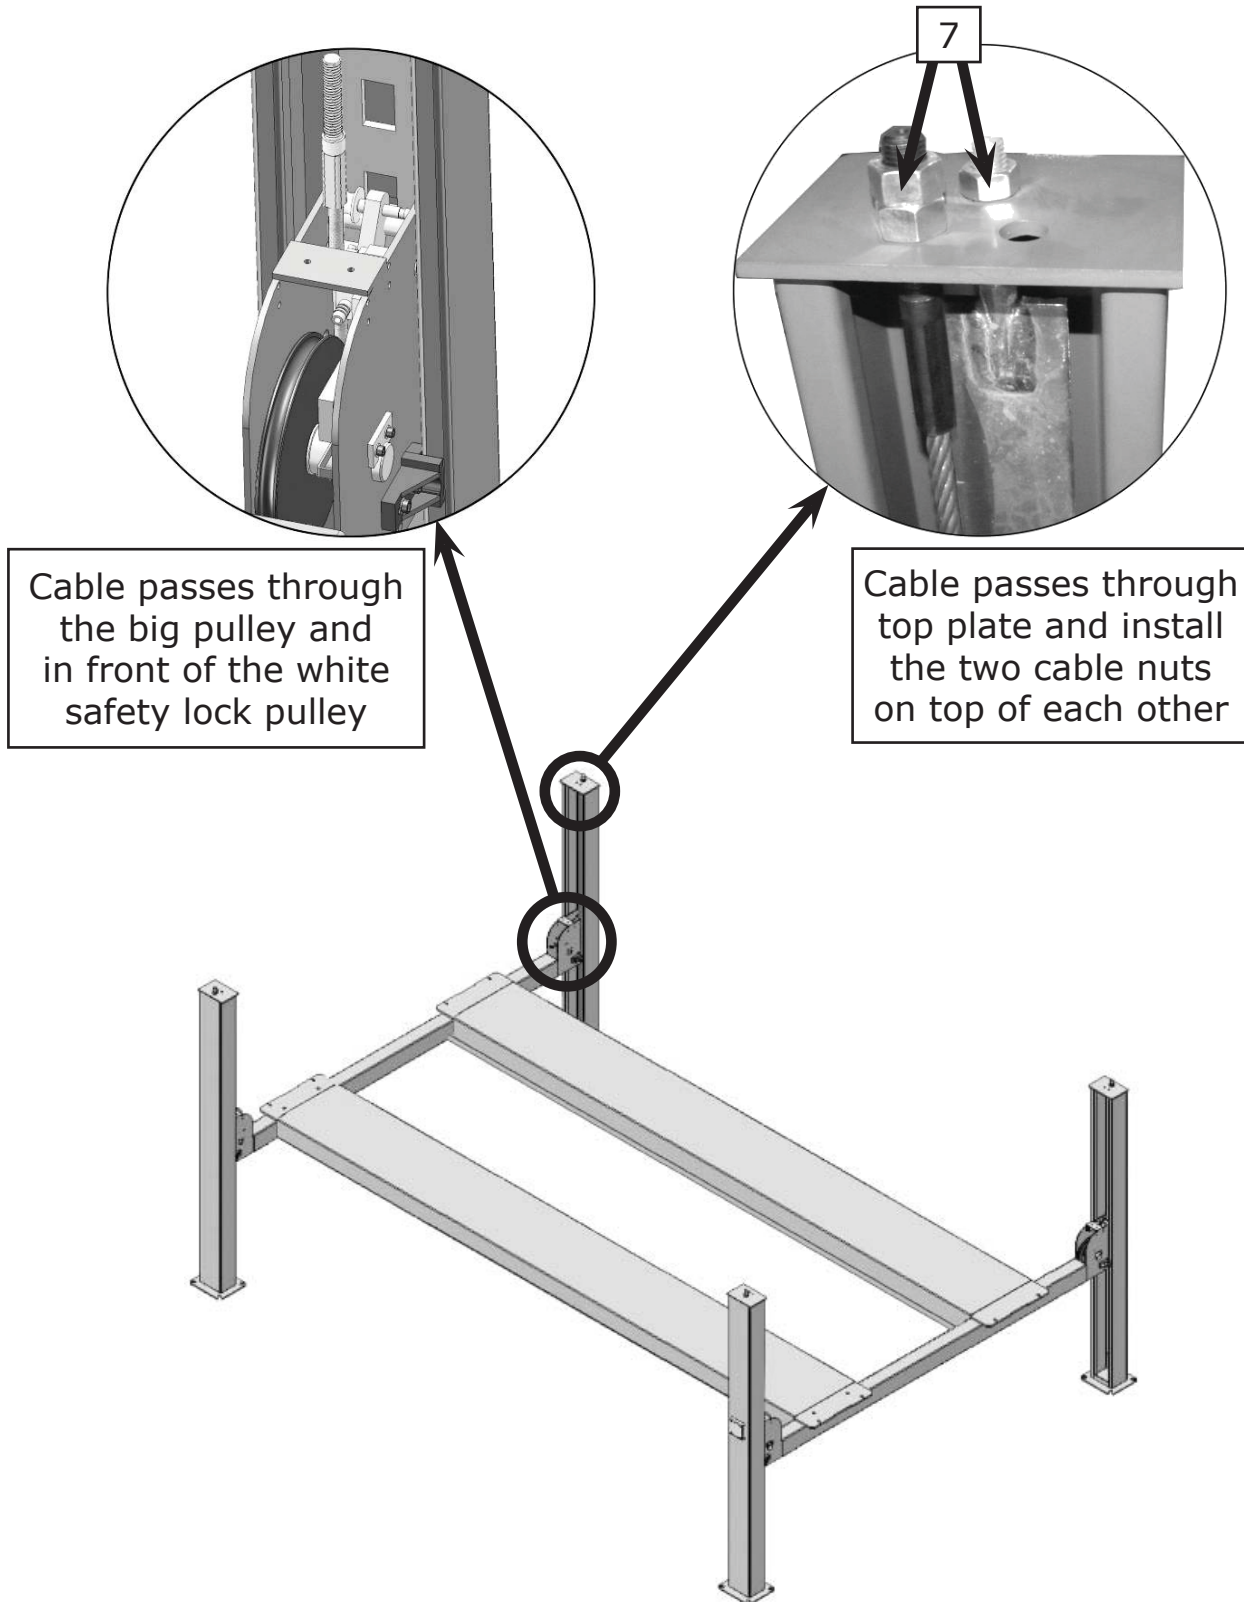

Fig. 23
2. The cable passes through Cross Beam and top plate on the column. Install the cable nuts (See Fig. 23).